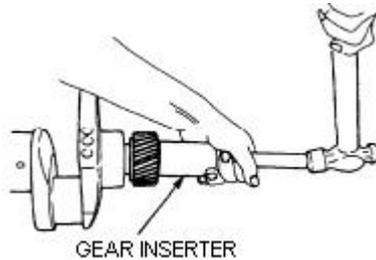

Figure 39 Installing the Drive Gear
- b. Using the gear inserter (Table 3, Serial 7) and a hammer, install the drive gear onto the crankshaft (Figure 39).